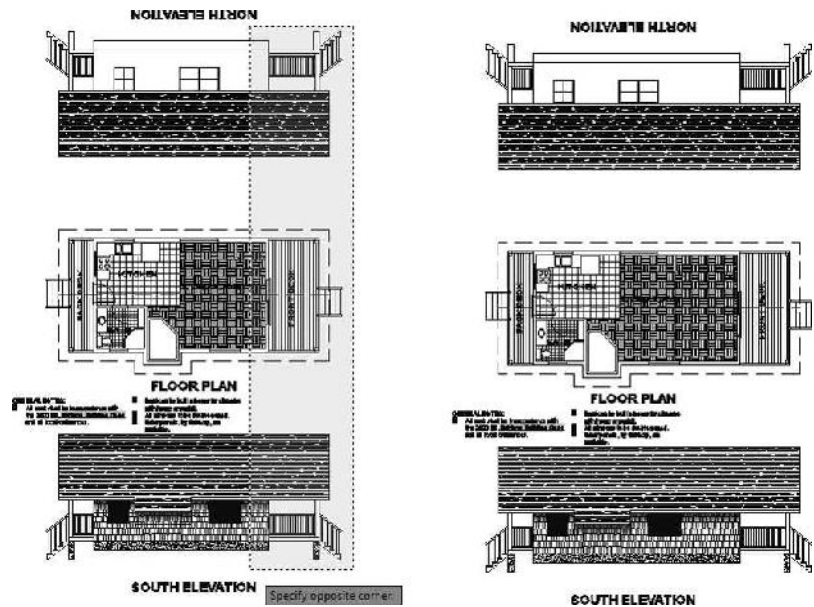

FIGURE 11.26: The crossing selection window (left) and the modified cabin with the adjusted hatch patterns (right)
7. Drag a window down and to the left until a crossing selection window lands between the two closet doors in the floor plan and ends below the cabin in the south elevation (see the left image of Figure 11.26).
The living room and roof are now longer, and the hatch patterns have expanded to fill the new areas (see the right image of Figure 11.26).